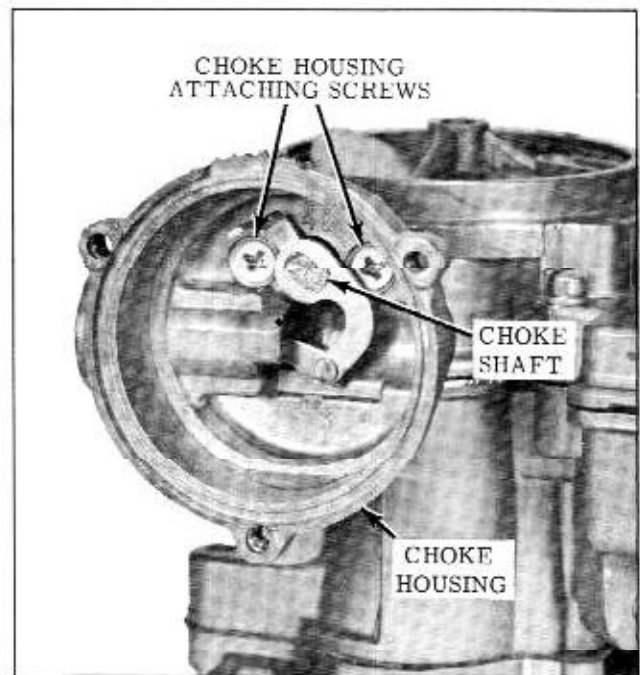

Fig. 8-75 Choke Housing Attaching Screws
- Remove 2 choke housing attaching screws. Choke housing and gasket may now be removed from air horn assembly. (Fig. 8-75)